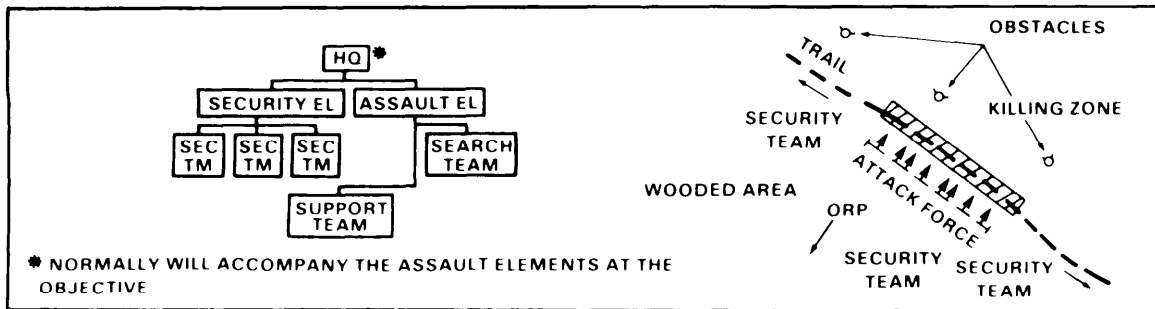

Figure 1-11. Typical organization and employment - point (linear) ambush
**Ambush and security.** See Figures 1-11 through 1-14 (pages 1-8 and 1-9). Key points for a successful ambush are: